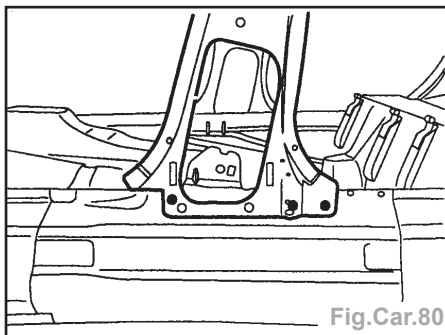

Fig.Car.80
- Reposer le renfort de pied central (Fig.Car.80).